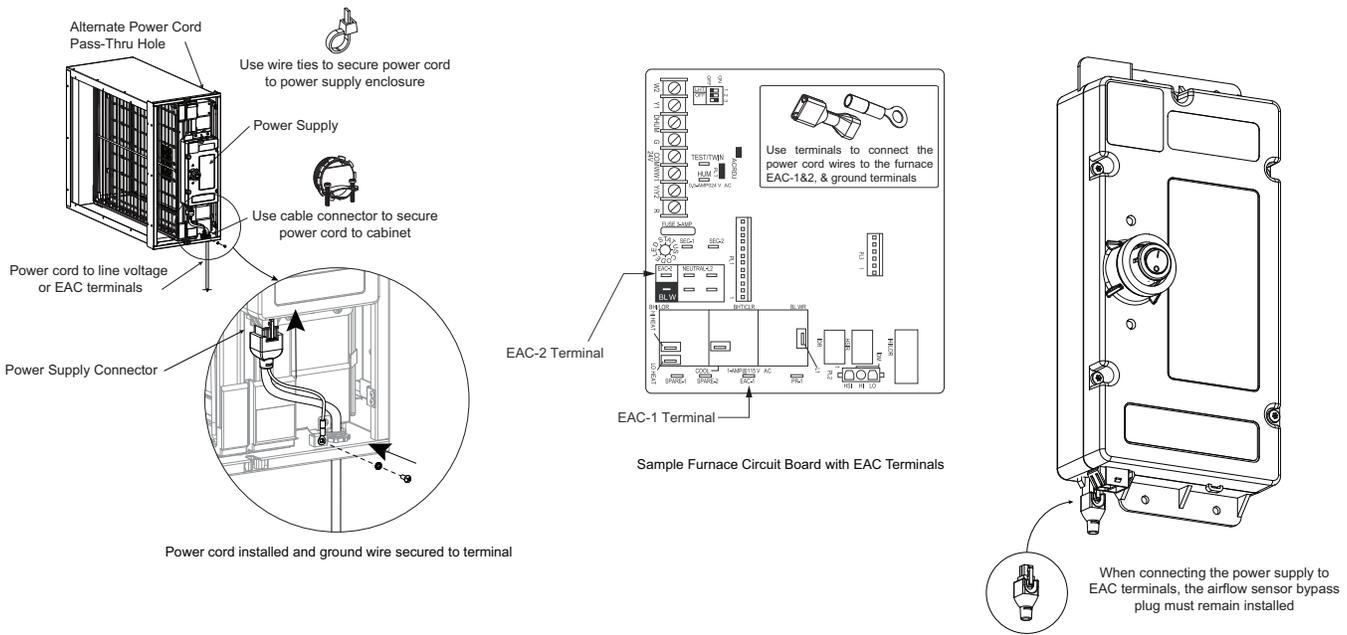

Fig. 9 - Infinity Air Purifier Electrical Connections
NOTE: The air purifier must only be powered when airflow is present. The furnace control EAC spade connections provide power only when the furnace blower is operating. When connecting to EAC terminals, the airflow bypass plug must be installed for proper operation (see Fig. 9). If EAC connections are not available, contact your local HVAC distributor for alternative options.
- Connect the power cord and airflow sensor bypass plug to the appropriate power supply connectors (see Fig. 9). When connecting the power cord, the green ground wire must be attached to the ground terminal on the cabinet.